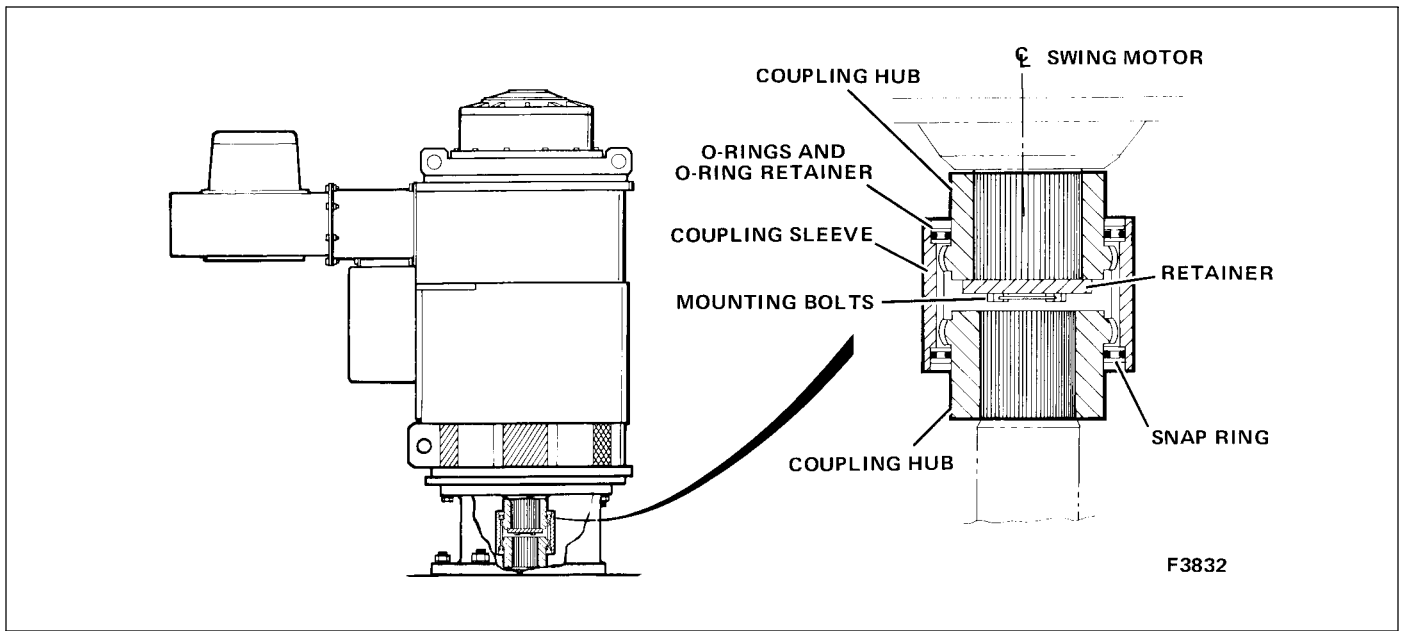

Figure 3-3. Swing Motor Coupling
10. Remove the access cover from the motor mounting base (see Figure 3-3).
2. Refer to Figure 3-3 and install the flexible coupling on the swing motor and shaft as follows.